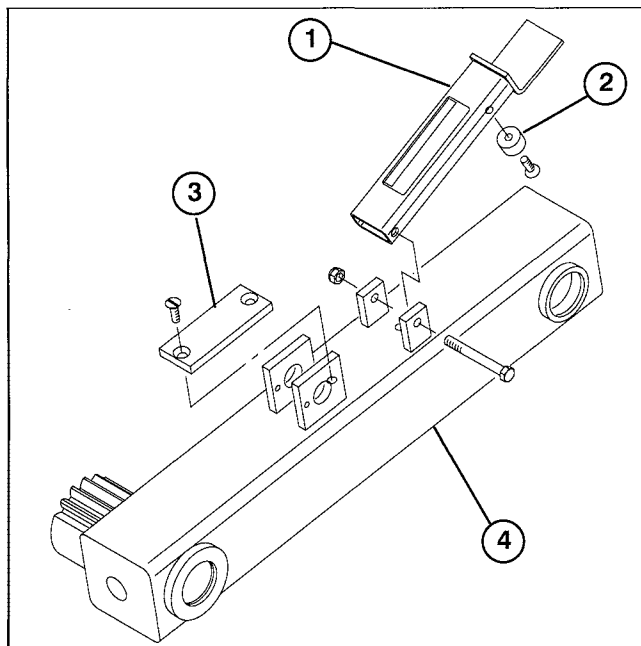

**Figure 1**
1. Mount a trailing arm shaft to each rear side of aerator frame with (6) 1/2–13 x 2" lg. Allen head screws and 1/2–13 locknuts (Fig. 1). Torque screws to 110 ft–lbs.
2. Mount a pivot shaft to each side of aerator frame with a 1/2–13 locknut (Fig. 1).